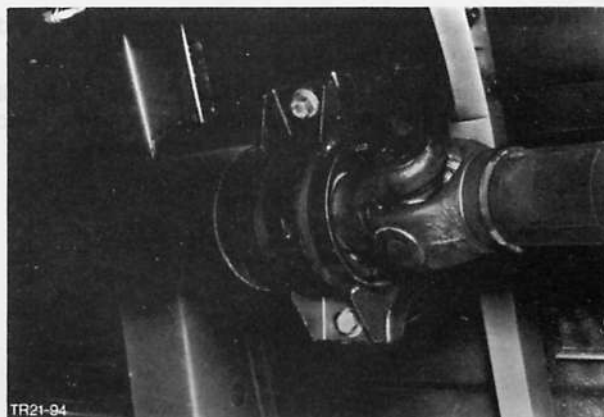

Fig. 28. Fit driveshaft centre bearing
27. Withdraw blanking plug from gearbox extension housing, carefully insert driveshaft and attach to rear axle flange and centre bearing as specified in Technical data, Fig. 28.